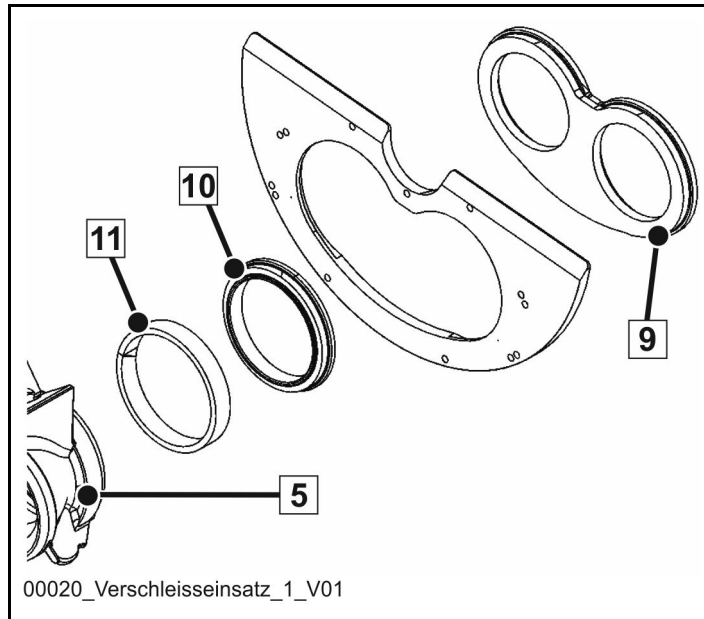
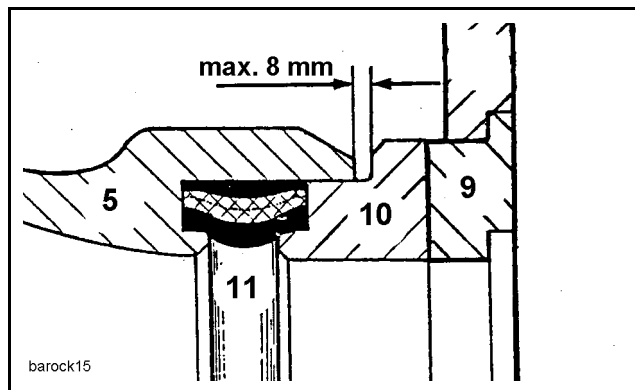

Fig. 331
Fig. 332
- Check the distance between the cutting ring (10) and the swivel head (rock) (5) (Fig. 331) and (Fig. 332) after each rotation. If it is more than 8 mm, the cutting ring is no longer guided securely in the rock and must be replaced.
- When replacing the cutting ring, check the condition of the wearing insert (9) and pressure spring (11) (Fig. 332).